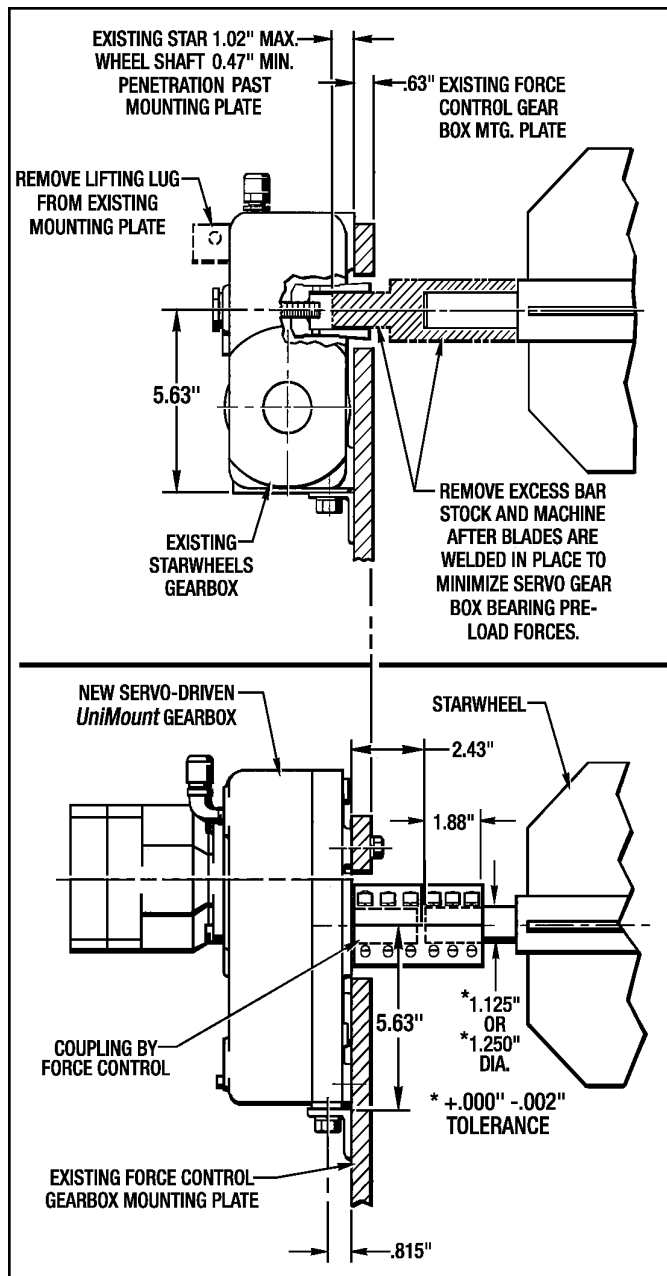

Figure 3.1 - Retrofit Installation for UniMount Gearbox
2. Also the lifting lug on the old Mounting Plate will have to be cut off and ground smooth so there will not be any interference in mounting the new Servo Driven UniMount Gearbox. (See the top half of Figure 3.1)
3. Remove excess bar stock from the Starwheel Shaft as shown in Figure 3.1.